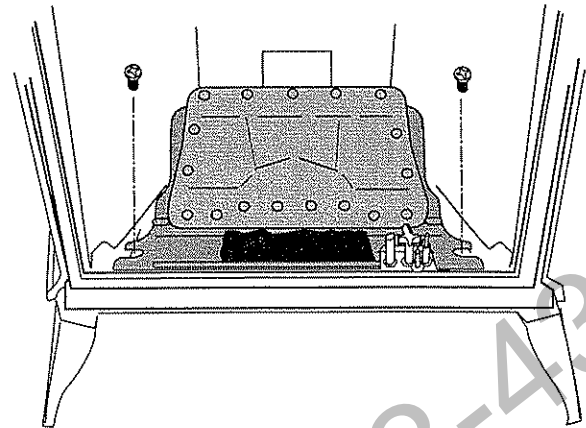

Figure 41. Remove the burner retainer screws.
**Step 2.** Remove the two Burner retainer screws. Lifting the back of the Burner, slide it to the rear and lift it out of the firebox to access the air shutter on the end of the J-tube. Fig. 41.